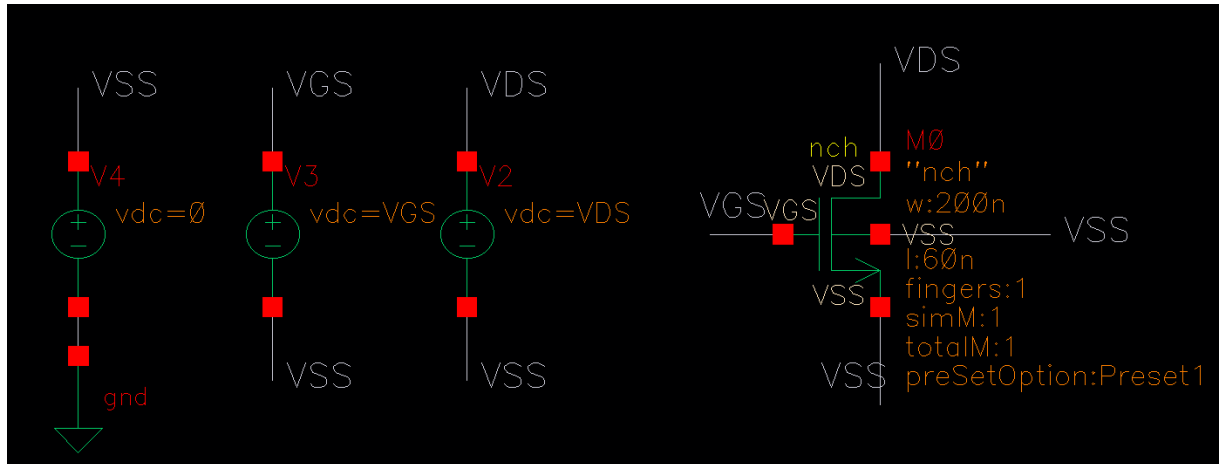

Figure 2: Circuit Schematic Drawn in the Editor
14. After completing the schematic, it should look similar to the one shown in Figure. 2